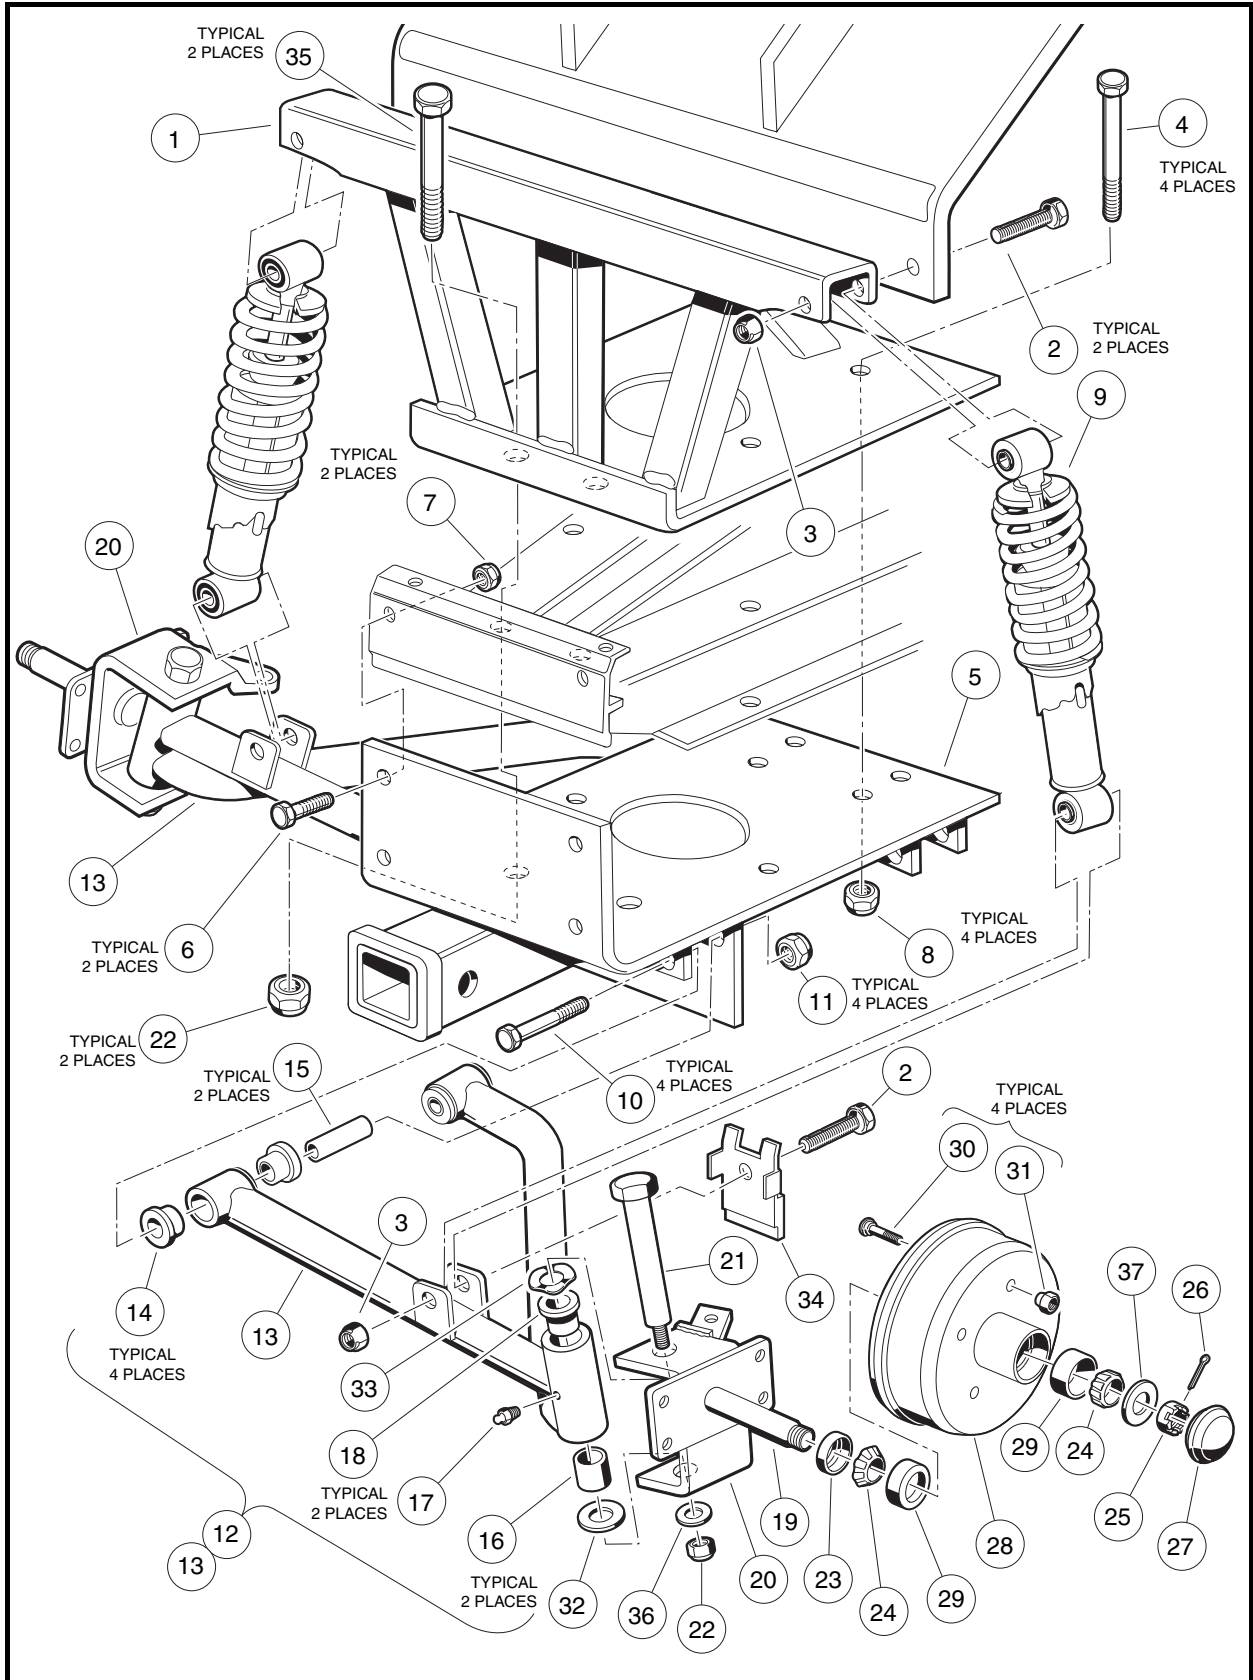

Figure 7-28 Front Suspension
5. Remove the nut (22) and washer (36) and kingpin (21) (**Figure 7-28, Page 7-17**).
6. Remove the thrust washer (32).
7. Remove the wave washer (33) and inspect it. If the washer is broken or has a wave bottom to wave crest height dimension of less than 0.040 inch (0.10 cm), it must be replaced.
8. Slide the spindle assembly (20) off of the A-arm (13).
2. Inspect the kingpin (21) and spindle (19). If either are worn or damaged, they must be replaced (**Figure 7-28, Page 7-17**).
4. Install the spindle assembly (20) onto the A-arm (13) (**Figure 7-28, Page 7-17**).
5. Install the thrust washer (32), wave washer (33) and kingpin (21).
6. Install the washer (36) and a new locknut (22). Tighten to 18 ft-lb (24.4 N·m).
8. Install the locknut (24) and tighten to 40 ft-lb (54 N·m).
9. Install a new cotter pin (18) and bend it to secure it to the ball joint.
10. Use a grease gun and apply grease to the grease fitting (17) in the A-arm (13) (**Figure 7-28, Page 7-17**).
3. Remove the nut (22) washer (36) and kingpin (21) (**Figure 7-28, Page 7-17**).
4. Remove the thrust washer (32).
5. Remove the wave washer (33) and inspect it. If the washer is broken or has a wave bottom to wave crest height dimension of less than 0.040 inch (0.10 cm), it must be replaced (**Figure 7-28, Page 7-17**).
6. Slide the spindle assembly (20) off of the A-arm (13).
7. Remove the lower shock absorber mounting bolt (2), nut (3) and steering stop bracket (34).
8. Remove the two bolts (10) two nuts (11) and the A-arm (13) from the suspension mounting plate.
1. Inspect the bushings (14) and sleeves (15) in the A-arm (13) and replace if necessary (**Figure 7-28, Page 7-17**).
3. Install the A-arm (13) to the front suspension mounting plate using bolt (10) and nut (11) and tighten to 20 ft-lb (27 N·m) (**Figure 7-28, Page 7-17**).
4. Install the spindle assembly (20) onto the A-arm (13).
5. Install the lower shock absorber mount to the A-arm with bolt (2), nut (3) and steering stop brake hose bracket (34) (**Figure 7-28, Page 7-17**). Align the bracket (34) with the shock absorber and tighten hardware to 22 ft-lb (29.7 N·m) (**Figure 7-29, Page 7-18**).
6. Install the thrust washer (32), wave washer (33) and kingpin (21).
7. Install the washer (36) and a new locknut (22). Tighten to 18 ft-lb (24.4 N·m).
9. Install the locknut (24) to secure the ball joint to the spindle and tighten to 40 ft-lb (54 N·m).
10. Install a new cotter pin (18) and bend to secure it to the ball joint.
11. Use a grease gun and apply grease to the grease fitting (17) in the A-arm (13) (**Figure 7-28, Page 7-17**).
4. Remove the bolt (2) and nut (3) attaching the upper shock absorber mount to the A-arm (**Figure 7-28, Page 7-17**).
5. Remove the bolt (2) and nut (3) attaching the lower shock absorber mount and steering stop/brake hose bracket (34) and shock from the A-arm.